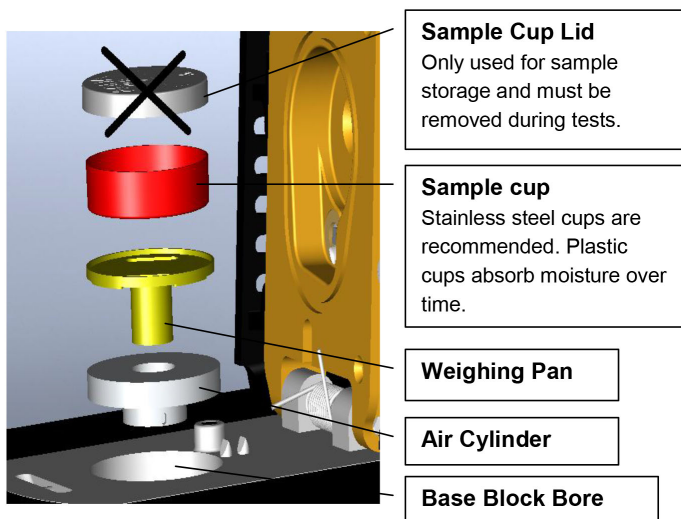

Figure 8: Sample Cup and Lower Block Assembly
5. Install the air cylinder and weighing pan. With the lid open, insert the air cylinder and weighing pan into the testing block as shown in Figure 8. These parts should remain in the instrument continually and are only to be removed for maintenance. Do not insert a sample cup unless you are running a test. Place the air cylinder into the base block bore. It should slide into the block easily and settle at the bottom of the bore. The weigh pan connects to the scale and holds the sample cup. For best results, verify cleanliness of all parts and avoid dropping the parts as damaged parts may not slide properly and affect performance.